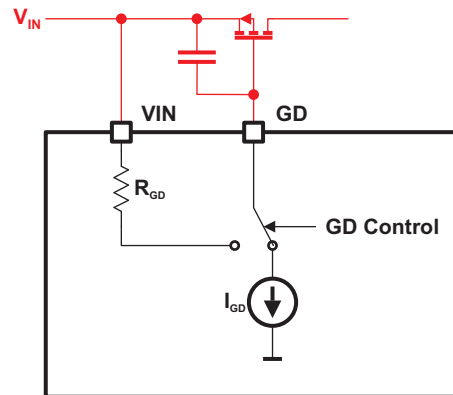

Figure 35. Gate Drive Internal Block Diagram
The gate driver (GD) pin can be used to control an external isolation switch. The TPS65149 supports PMOS devices positioned between V_{IN} and the boost converter's inductor (see Figure 35). The GD pin is pulled low by a 10 μA current source when $V_{IN} > V_{UVLO}$ and $EN=high$ and features an internal pull-up resistor to turn off the isolation switch when V_{IN} is removed or EN is low.